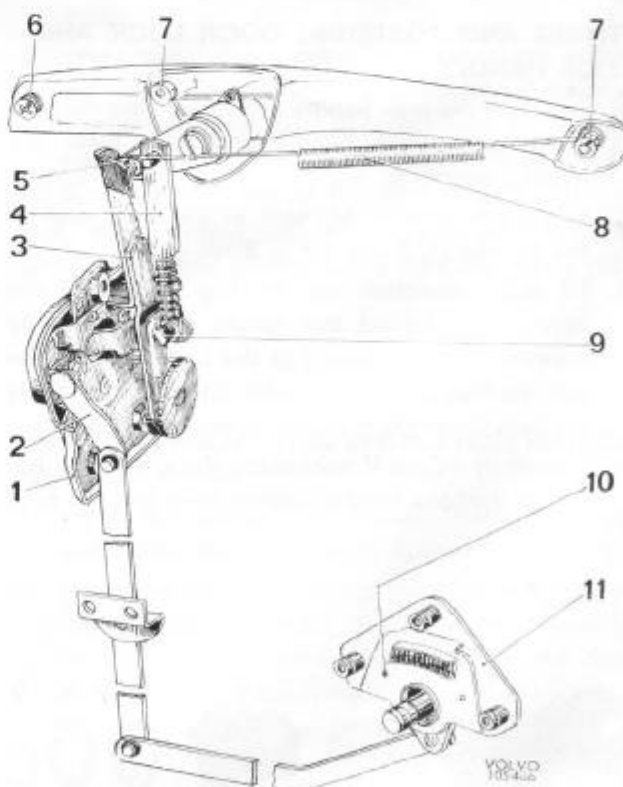

Fig. 8-17. Door lock with remote control
4. Remove the locking (9, Fig. 8-17) for the lever between the lock and the outer handle.
7. Remove the lock handle by unscrewing the screw (6) and nuts (7, Fig. 8-17).
3. Fit the connection link (4, Fig. 8-17) and the spring (8). Adjust the length of the link by screwing on the spring at the lower end of the link so that the lock handle control arm meets the lock lever (3) in the unlocked position.
lock lever (Fig. 8-20). The clearance should be 1—2 mm (1/16"). Adjust with the screw (5, Fig. 8-17).
5. Tighten the remote control lever so that the spring in the control is compressed, and lock the control in this position by placing a split pin in the hole (10, Fig. 8-17).